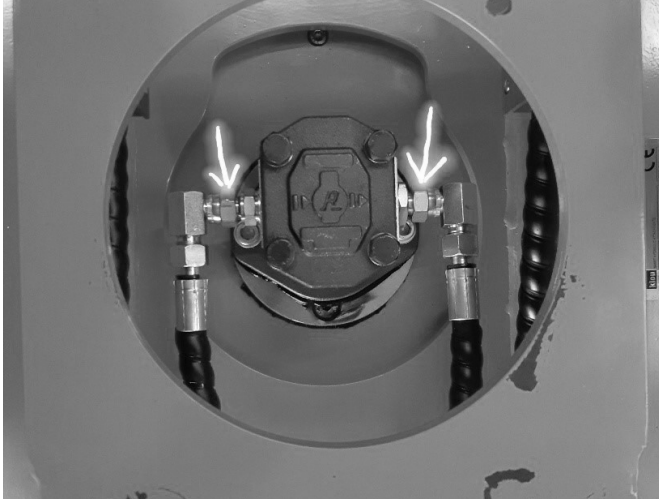

Figure 1
1. Loosen the hydraulic connectors that are shown in Figure 1.